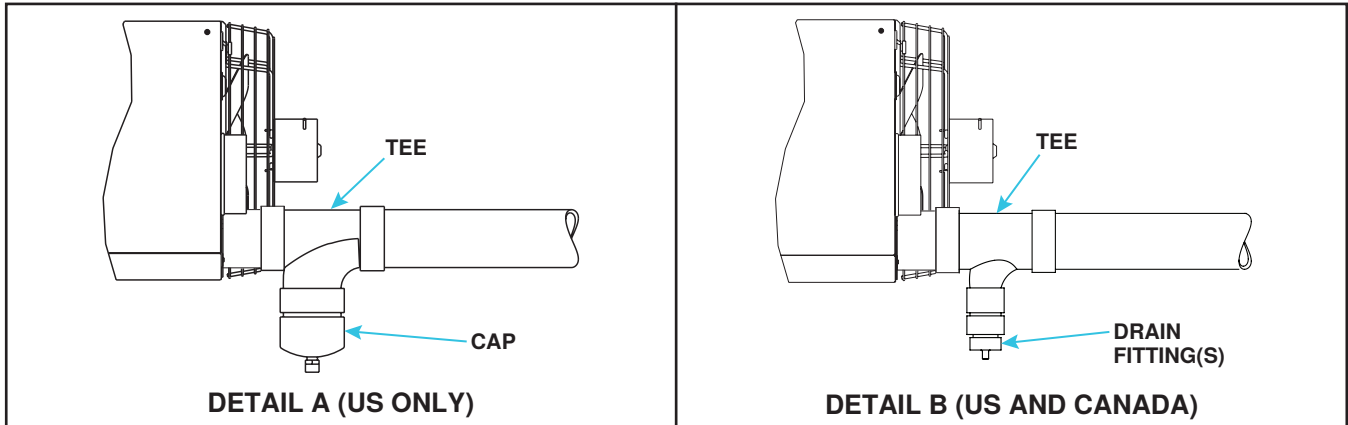

Figure 21. Installing Condensate Drain in Vertical or Horizontal Vent (Unit Sizes 130–310)
3. For horizontal or vertical vent, install vent condensate drain on unit sizes 130–310 (see Figure 21):
- a. For US installations only (see Figure 21, DETAIL A):
- (1) Connect field-supplied 4 × 4 × 4 PVC tee to 4-inch vent outlet on back of heater.
- (2) Connect PVC cap included in option CC2 or CC6 to tee. Cap is drilled and tapped for 1/2-inch NPT drain connection.
- (3) Connect field-supplied condensate drain to cap. Balance of vent may be either horizontal or vertical. Ensure that horizontal vent slopes downward toward drain.
- b. For US or Canadian installations (see **Figure 21**, DETAIL B):
- (1) Connect field-supplied PVC tee to 4-inch vent outlet on back of heater.
- (2) Connect field-supplied fitting(s) to tee as needed for 1/2-inch or larger condensate drain line. Balance of vent may be either horizontal or vertical. Ensure that horizontal vent slopes downward toward drain.